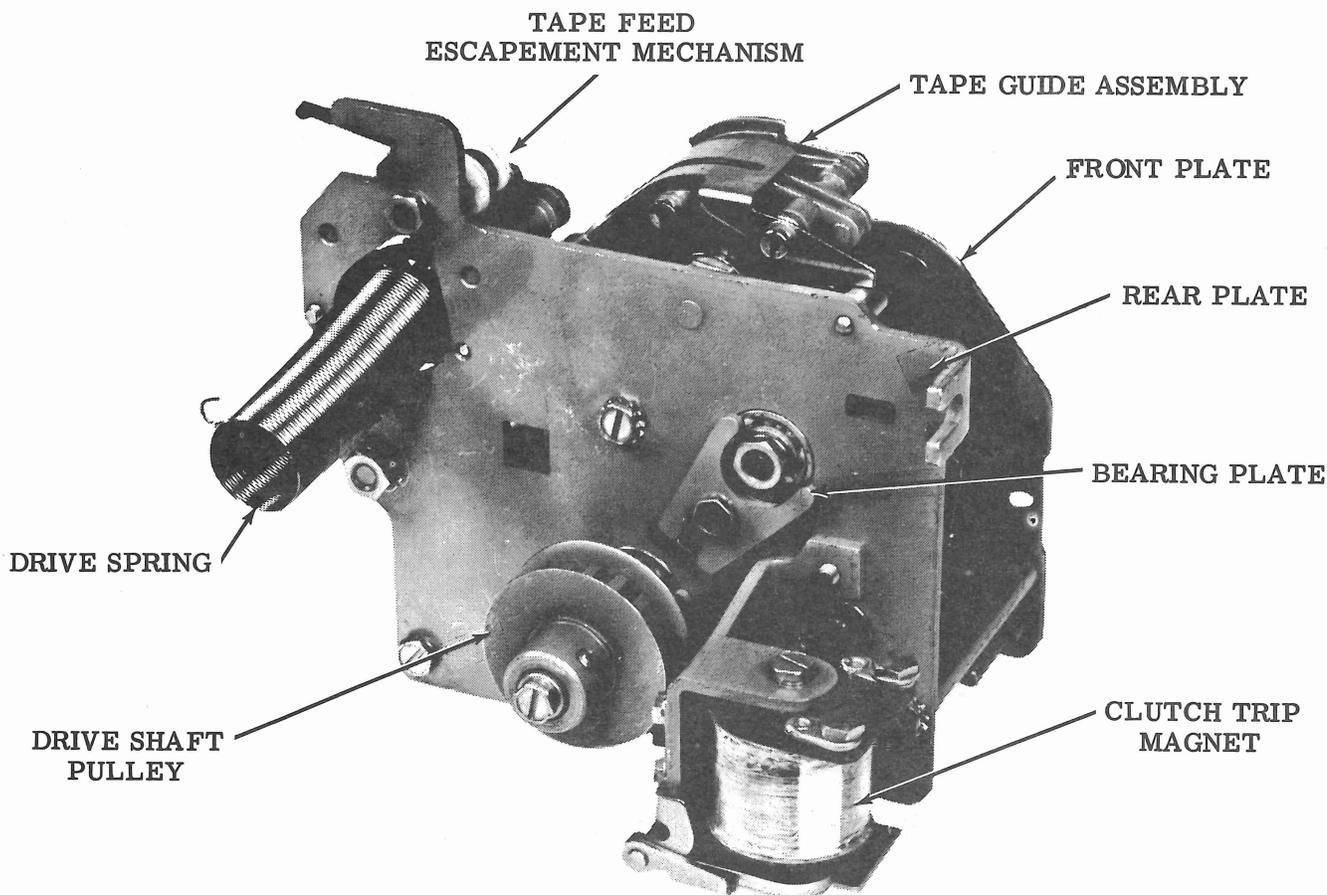

Figure 11 - Punch Backup Mechanism, Rear View
3.09 To remove the trip magnet assembly (Figure 11):
- 3.16 To remove the drive spring (TP149833) (Figure 11):